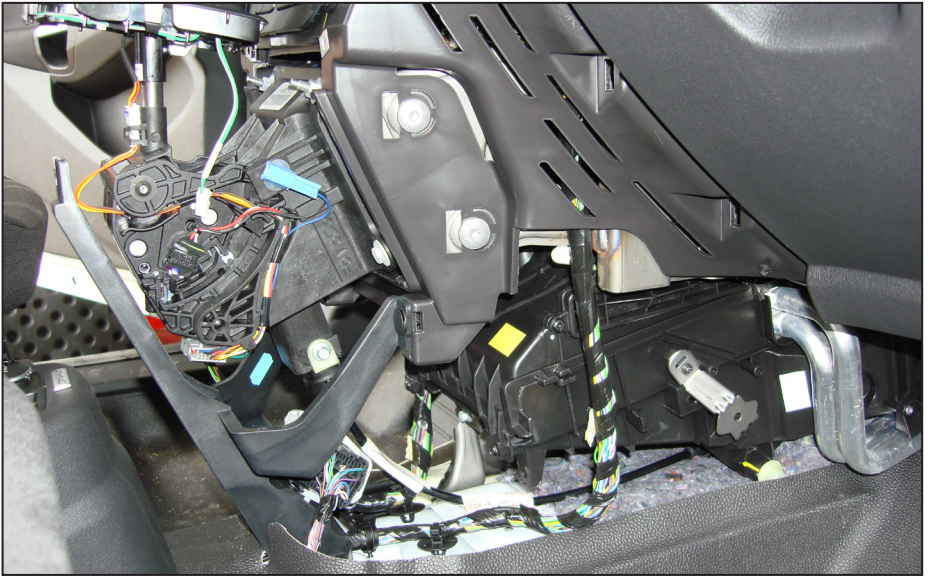

Figure 11 — Remove lower dashboard (shown removed)
- Remove the lower dashboard from vehicle (shown removed) (Figure 11).